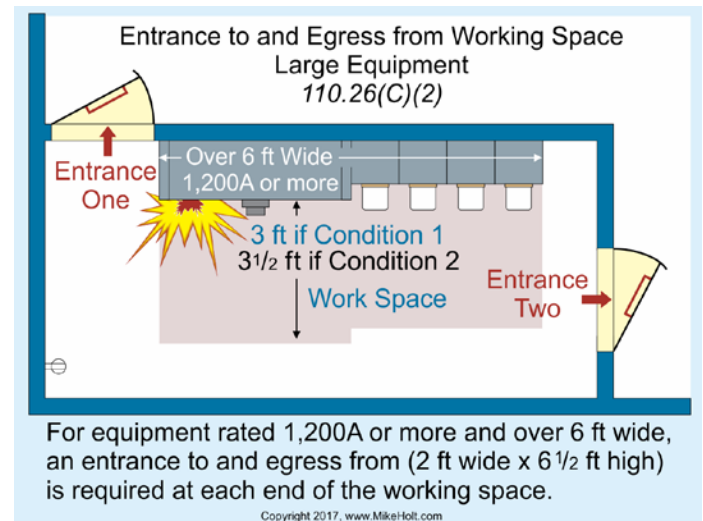

Figure 110-39
(2) Large Equipment. An entrance to and egress from each end of the working space of electrical equipment rated 1,200A or more that's over 6 ft wide is required. The opening must be a minimum of 24 in. wide and 6½ ft high. Figure 110-39